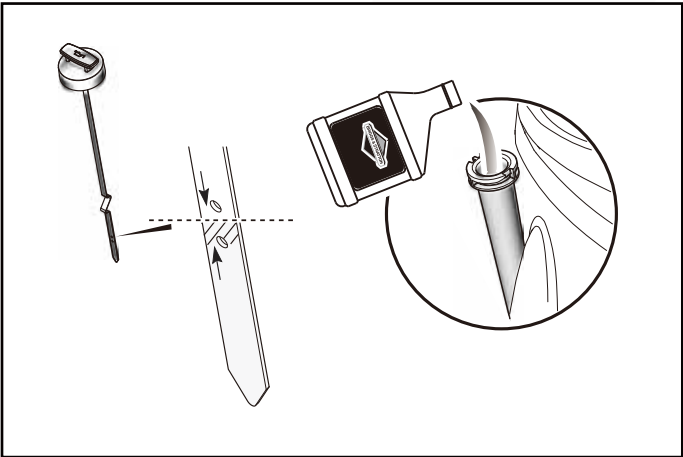

Fig. 12
- Make sure that the oil level is around the middle of the FULL mark on the dipstick. (Fig.12).
- If the oil level is LOW, add oil into the oil fill tube. (Fig. 12)